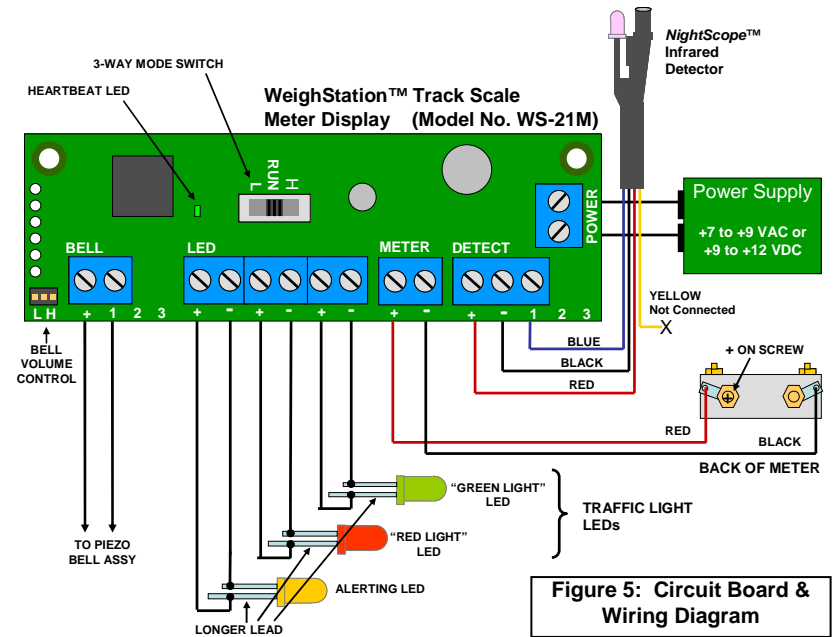

Figure 5: Circuit Board & Wiring Diagram
6. Connect the RED and BLACK wires from the Meter Assembly to the Track Scale Faceplate/Circuit Assembly as shown in Figure 5.
Figure 5 shows how to wire your **WeighStation™ Track Scale**, along with key features on the circuit board. (Meter connections were made previously in step 6 above.)
1. Connect two wires from your power supply to the Track Scale power terminals as shown in Figure 5. Polarity does not matter. The power supply must be 7 to 9 Volts AC or 9 to 12 Volts DC, with 50 mA capacity. Radio Shack sells an AC adapter (#273-314) that works well.
2. Connect the RED, BLACK and BLUE wires from the **NightScope™ Infrared Train Detector** as shown in Figure 5. The YELLOW wire is not used – trim it and insulate the end.
3. If you are using the Piezoelectric Bell Assembly, connect it as shown in Figure 5. Polarity does not matter.
4. You can directly wire an Alerting LED as in Figure 5. Install the LED on or near your Scale House. Or you can install the red and green “traffic light” LEDs as shown. (LEDs are not included.) LEDs are polarity sensitive – connect the long and short leads as shown. The Track Scale circuit board sources 20 mA at 2 Volts for each LED.
The Track Scale Circuit Board has a green “Heartbeat LED” (see Figure 5) that blinks every second while the Track Scale is waiting for a car. It is steadily on while the Track Scale is generating a car weight, or while setting the Display Range.
Use the 3-Way Mode Switch in the center of the circuit board (see Figure 5) to set the three Display Ranges as follows:
The Bell sound volume is controlled by the black jumper in the lower left corner of the circuit board (see Figure 5). Slip the jumper over the center and “L” terminals for a lower volume, or over the center and “H” terminals for a higher volume. To turn off the Bell, remove the jumper.